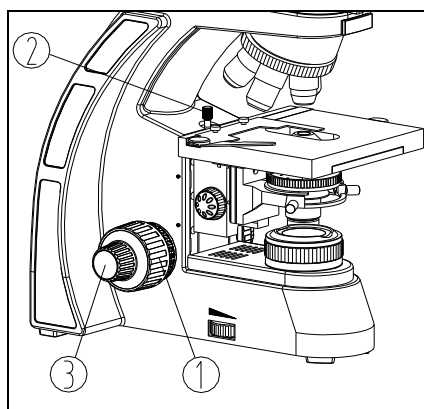

Fig. 11
2. Rotate the position screw (2) to top, observe the right eyepiece with right eye. Rotate the coarse focusing knob (1) until the image appears (see Fig. 11).
3. Rotate the fine focusing knob (3) for clear details and lock the position screw (2).